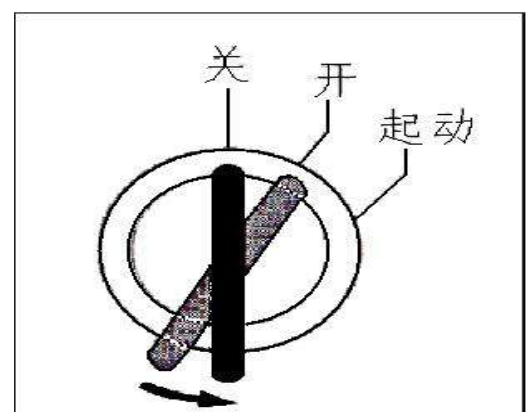

Fig 3- 23
2. Put the safe pole①(Fig 3—13)
3. Put the accelerator operating bar on The lowest speed position (Fig 3—22), then Running the engine for 3-5 minutes in idle position.
4. Turn the key to “off” position (Fig 3—23), stop the engine.
1. Draw back the safety pole ①(Fig 3—25), make the left operating device up to the lock position, when the safety pole (Fig 3—25) is on the lock position, all the working devices could not work.
1. set the accelerator according to the excavator speed. (Fig 3—26)
3. Draw back the working device to let it off ground. Fig 3—28.
6. When walks on uneven ground, choose low speed(1.0—1.5km/h) to reduce the speed of the engine(Fig 3—29).